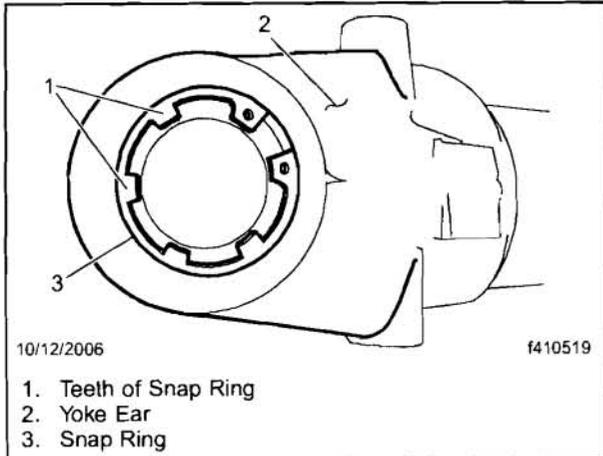

Fig. 1, Interaxle-Driveshaft Yoke (side view)
4. Underneath the vehicle, find the yokes on the interaxle driveshaft that have snap rings. See **Fig. 1**. Make sure all the snap rings are present. There should be a total of four (two at each end of the driveshaft).